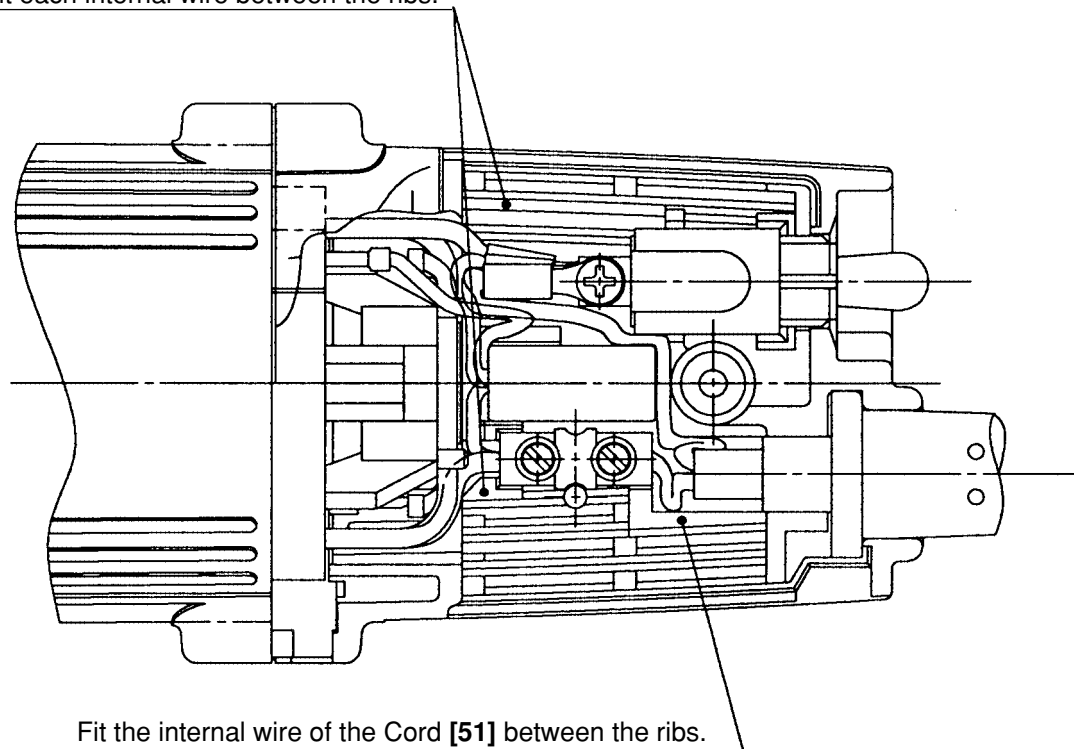

Fig. 8
- (7) Connect each internal wire correctly as shown in Fig. 8 being careful not to put them between the parts.